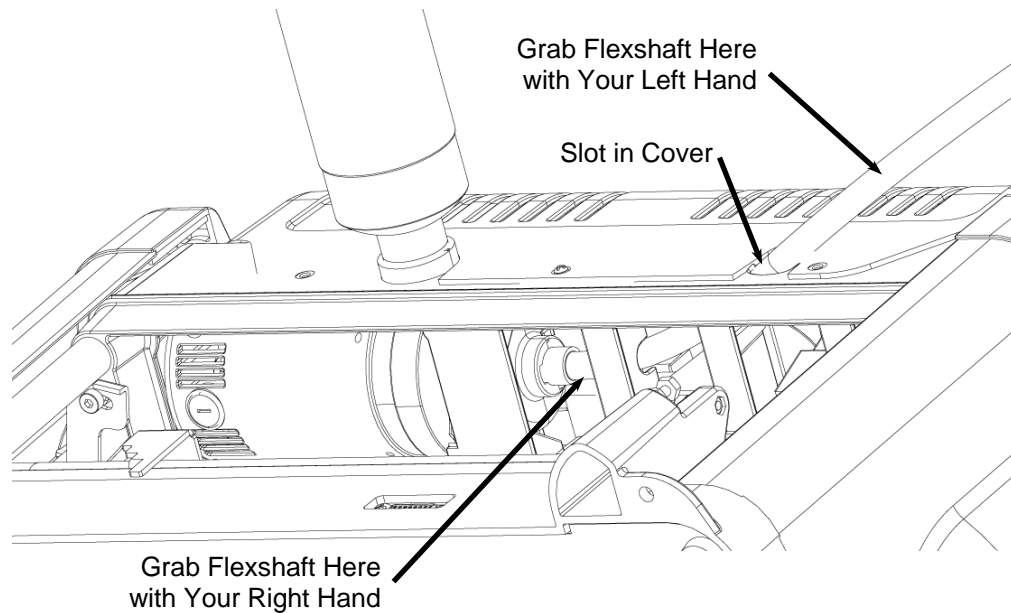
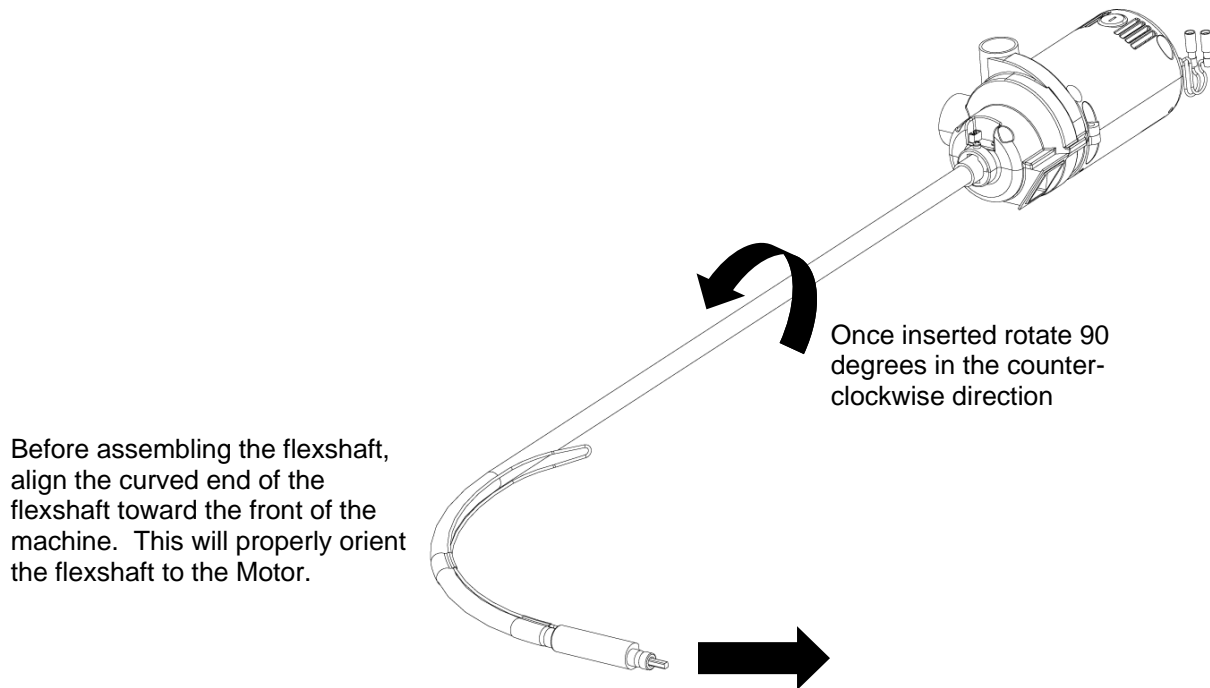

FIGURE 5: REMOVING THE FLEXSHAFT
FIGURE 7: INSERTING THE FLEXSHAFT (SHOWED OUTSIDE THE MACHINE)
1. **Assemble the Flexshaft Sheath onto the AC motor.** Orient the curved end of the flexshaft assembly toward the front of the machine as shown in Figure 7 and thread the end into the slot in the back cover (See Figure 5). Insert the tabs on the end of the flexshaft sheath assembly into the slots on the AC motor housing. Again make sure that the curved end of the flexshaft is pointed toward the front of the machine before inserting it into the motor. Turn the flexshaft assembly 90 degrees in the counter clockwise direction and tighten the flexshaft retaining screw. **Failure to correctly orient the flexshaft during assembly can cause the core to bind and overheat very rapidly.**